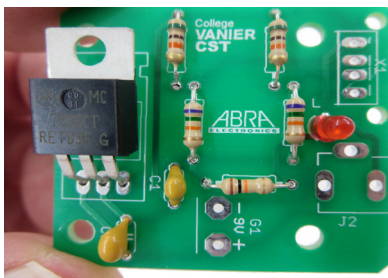

Fig. 7
7. Install and solder the IC1 regulator as per fig.7. Bend the IC1 to lie flat on the PCB. Trim leads with diagonal cutter.